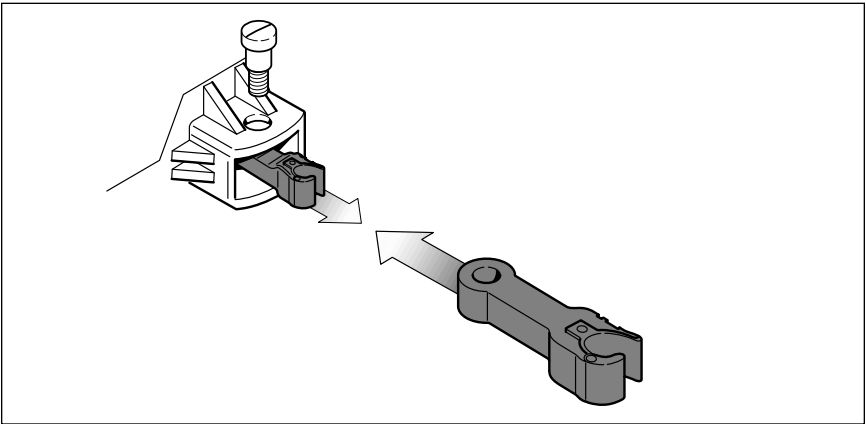

Figure 7. Coupler installation
**A**n O gauge coupler (non-operating) is included with your locomotive for those who may wish to "double-head" their trains with a second 2-6-0 Mogul. Straighten out the wire coupler pin with a pair of needle nose pliers. The coupler pin runs through the scale coupler. Using a small flat-blade screwdriver, loosen and remove the screw holding the scale coupler. Remove the scale coupler. Position the O gauge coupler and secure with the previously removed screw. Refer to Figure 7.